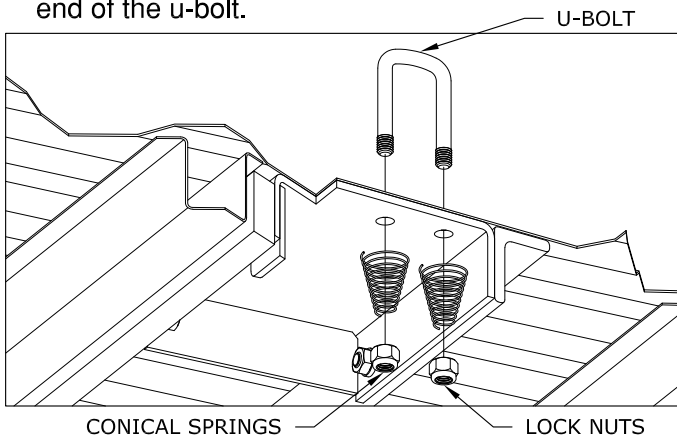

Figure F3: Cut away view from under the bed.
3. **Add springs.** Place a conical spring over each leg of the u-bolts and secure with a $\frac{1}{2}$ " lock nut, see figure F3. Tighten the lock nut until the nut is flush with the end of the u-bolt.